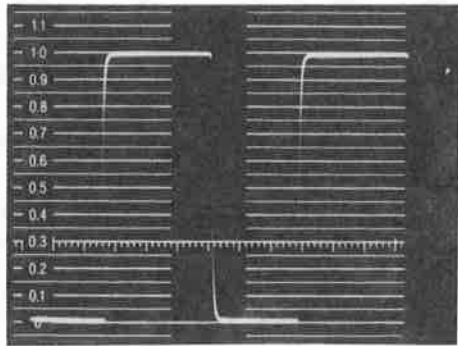

Fig. 6-1 VOLTS FULL SCALE control set to 1 V CAL.
(4) Operation manual	1
- 11. Rotate the vertical POSITION control to position the display in the 0 to 1.0 unit of the graticule. The calibrator waveform of 1.0 unit within  $\pm 0.01$  unit in amplitude will be displayed (see Fig. 6-1).